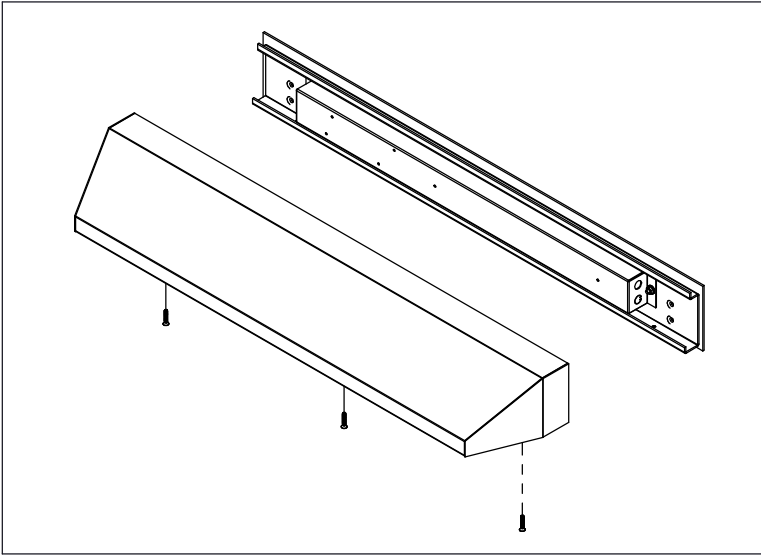

Figure 5
5. Reattach Housing to the Mounting Plate with housing screws (Fig. 5).